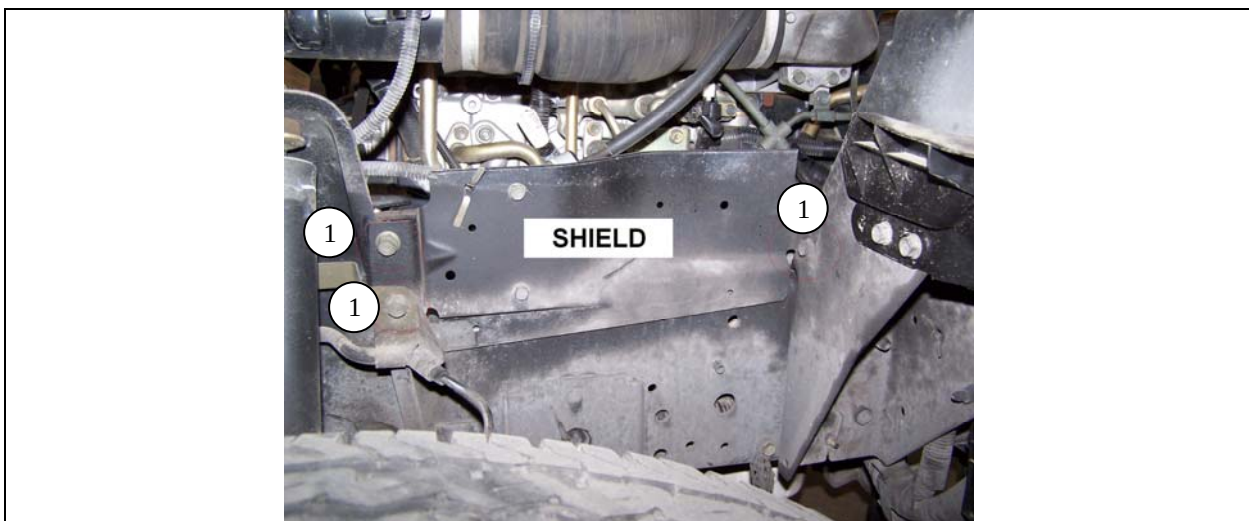

Figure3
6. Remove shield mounting bolts and lower the shield for required clearance. See figure 3. (Three mounting bolts)